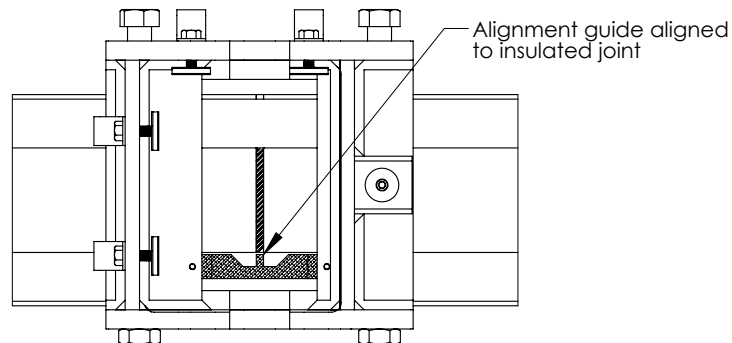
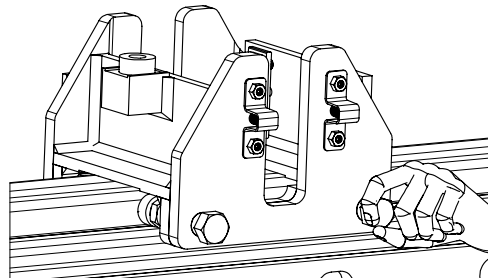
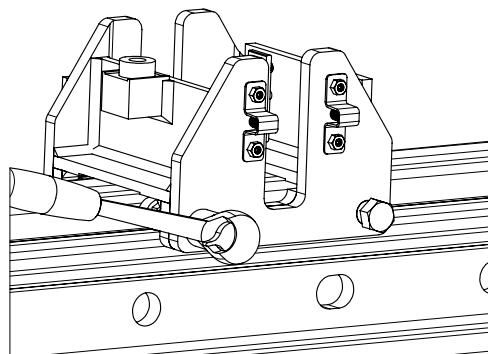

Figure 15: Alignment guide oriented with the insulated joint end post
Figure 16: Finger tighten the adjustable clamping pads
Figure 17: Tighten the adjustable clamping pads with wrench
4. Use the joint alignment bracket to align the base assembly over the insulated joint end post (**Figure 15**). Tighten the adjustable clamping pads to finger tight (**Figure 16**). Confirm that the base has not shifted and is aligned properly. Apply 20 ft-lb to each of the clamp pads using a 15/16" hex socket (**Figure 17**).